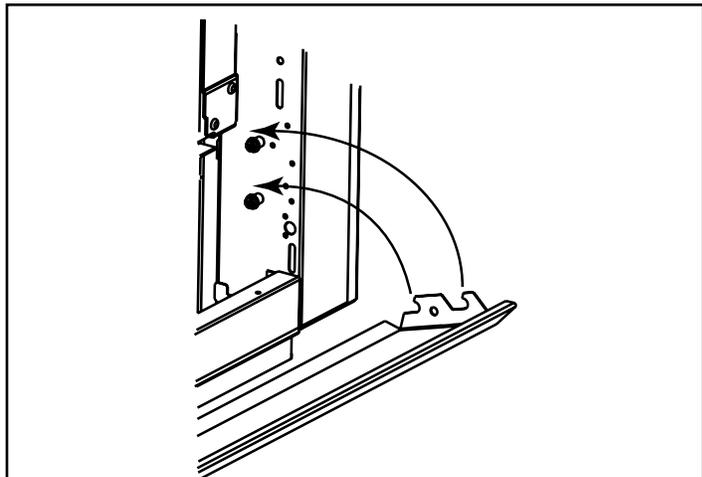

Figure 12.14 Installing Bottom Latch Cover
- Reinstall lower latch cover (see Figure 12.14).
- Insert bottom latch cover over existing shoulder screws. See Figure 12.14.